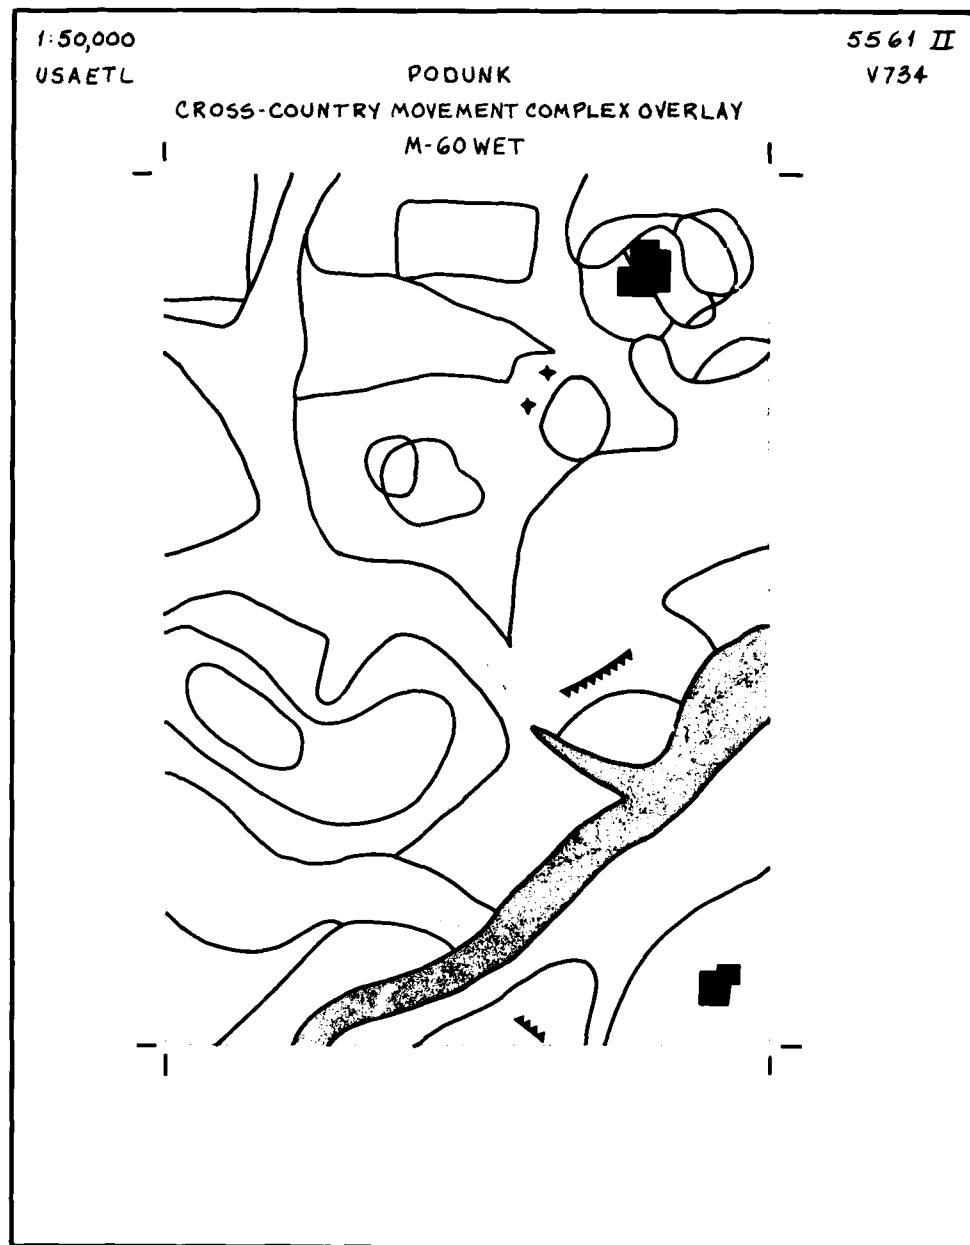

Figure 14. Sample Complex Overlay with Built-Up Areas, Vegetation, Watercourses, and Surface Roughness Added
a. Remove the Complex Overlay from the Watercourses and Water Bodies Factor Overlay. Put this Factor Overlay aside for later use. Pull the Surface Roughness Factor Overlay (figure 14) out of the data base. Place the Complex Overlay on top of the Surface Roughness Overlay. Pin-register (or match corner ticks and tape).
c. Look in table 3 and find all the NO GO Surface Roughness map units. Looking through the Complex Overlay, find any NO GO areas on the Surface Roughness Factor Overlay and color them in with a yellow fine-line pencil as in figure 14.